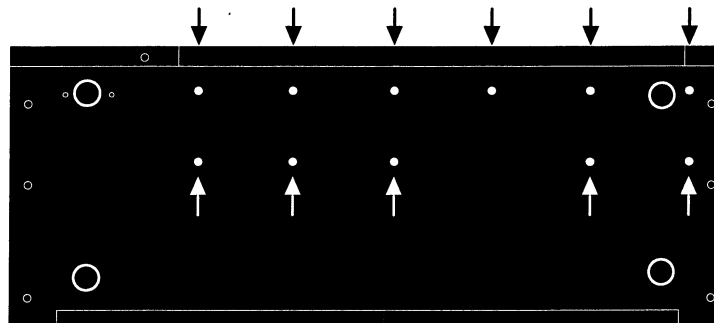

Figure 17 - MR-61 Screw with Washer Locations
4. With the unit upside down, remove the eleven (11) screws with washers, as shown in figure 17: